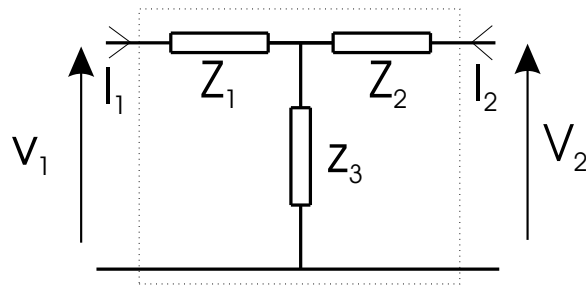

Figure 1.1: Z matrix
for a passive network the  $Z$  parameters may be represented by the 2 port network shown in figure 1.1. The  $Z$  matrix is then given by equation 1.2.
**Series connection:** Two  $Z$  matrixes may be connected in series as in figure 1.1. The resulting  $Z$  matrix is simply the addition of the two matrixes as in equation 1.3.